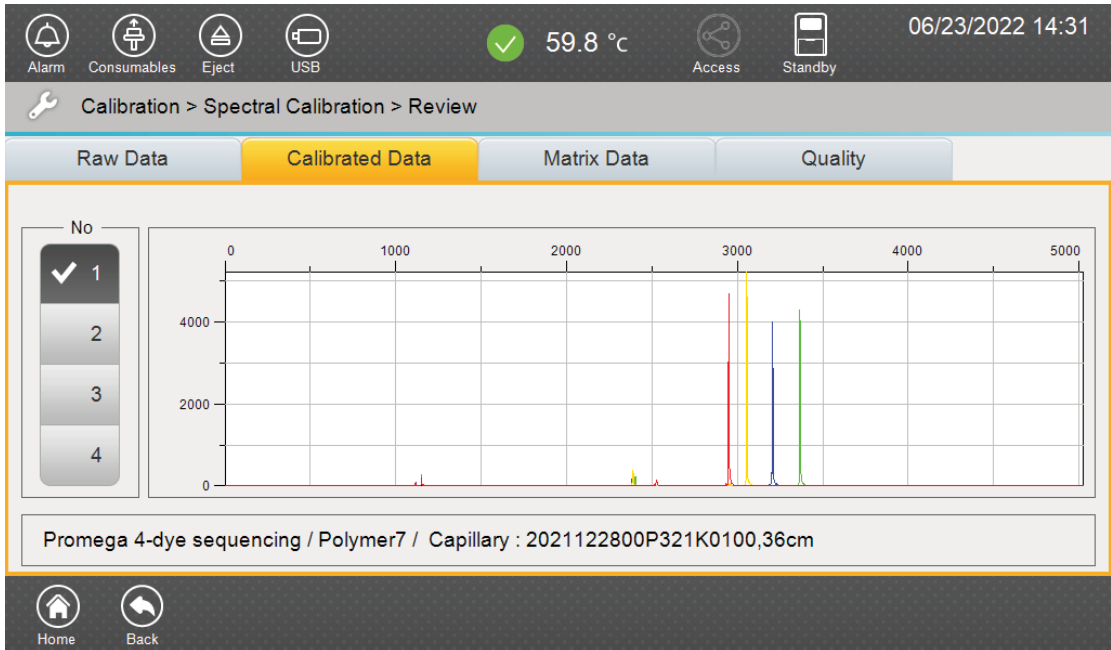

Figure 11. 'Spectral Calibration' screen, 'Calibrated Data' tab.
- The 'Calibrated Data' tab can be used to view the matrix peaks with both baseline and spectral applied for each capillary (Figure 11):